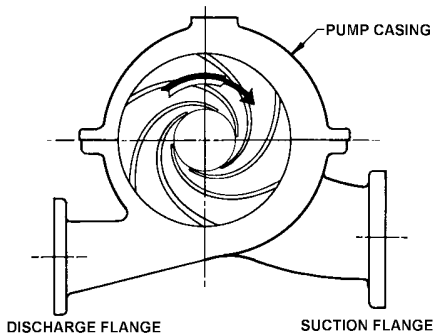

FIGURE 3. VANE POSITION FOR PROPER ROTATION
- a. Coat the shaft (6) lightly with oil.
- b. Place impeller key (32) in shaft keyway.
- c. Align impeller (2) on shaft and install with an arbor press or brass tubular sleeve and hammer. Guard against bending shaft. When assembled, the impeller vanes must rotate in the proper direction. (See Figure 3), and impeller hub must be centered on shaft journal.